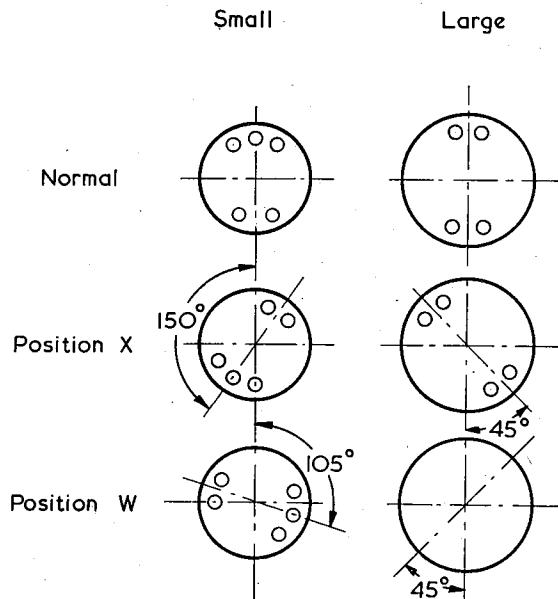

Fig. 3. Alternative insert orientations
10. To avoid mismatching of adjacent connectors, provision has been made for the inserts of the connectors to be assembled in alternative positions X and W as shown in Fig. 3.